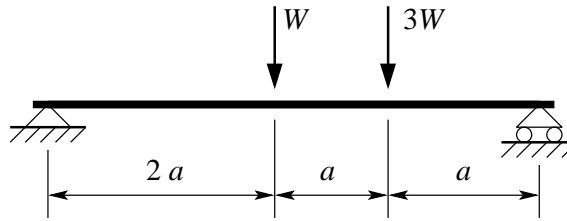

Figure 5
- † 5. Figure 5 (overleaf) shows a uniform beam with fully plastic moment, M_p , simply supported at its ends. Two point loads are applied, simultaneously, as shown. Consider alternative collapse mechanisms to find the critical value of W .